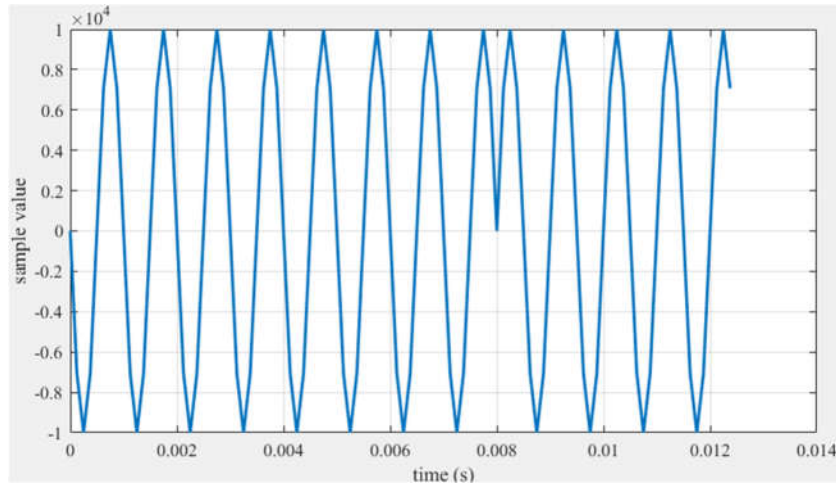

Figure 4: Saving data to file in MDK-Arm
**Question 3 [ 3pt / 10 ]:** When you view the contents of `sinusoid.dat` using the Matlab command `file stm32f7_logfft.m`, you observe a “discontinuity” similar to that illustrated in Fig. 4. How do you explain that “discontinuity”? Indicate one possible alternative value for `BUFFER_LENGTH` that is closest to 100 and that avoids that “discontinuity”.